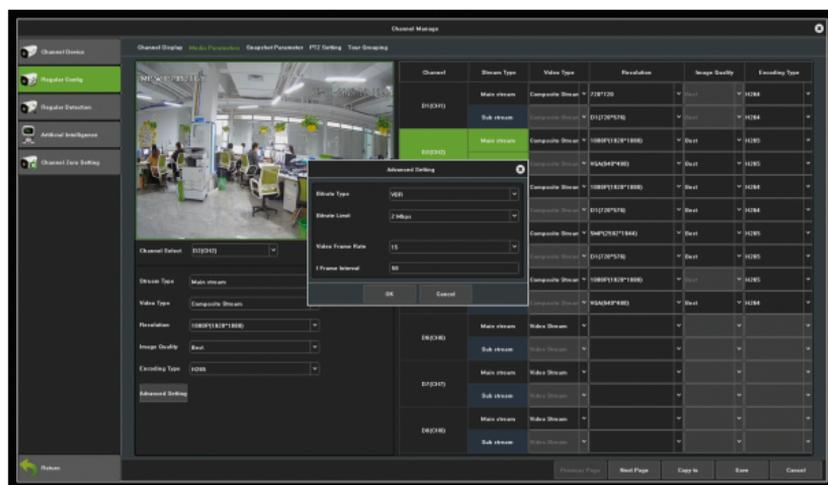

Figure 7.7 Recording Parameters
- 1) Enter the interface of media parameters, as shown in Figure 7.7.